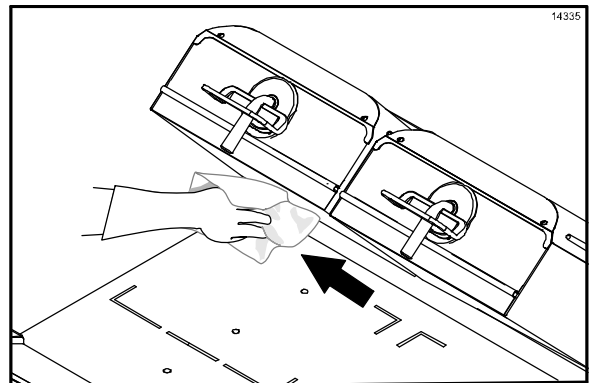

Figure 90
29. Rinse the front, side, and back of the platen surfaces with a clean, sanitizer-soaked grill cloth, starting from the right to the left platen. (See Figure 90.)